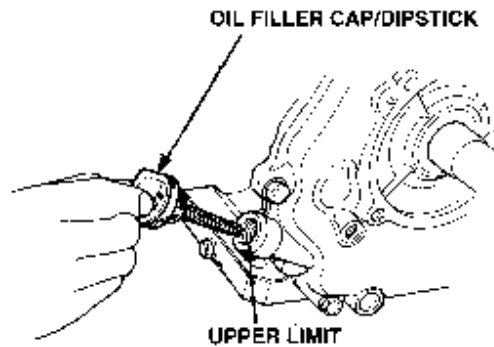

Figure 4-2: Checking Oil Level
- (4) Refill with the recommended oil (Figure 3-6). Check the oil level. Install the oil filler dipstick / cap (Figure 4-2).
- (5) Install the drain plug and tighten securely.
- (6) Refill with the recommended oil (Figure 3-4). Check the oil level. Install the oil filler dipstick / cap (Figure 4-2).